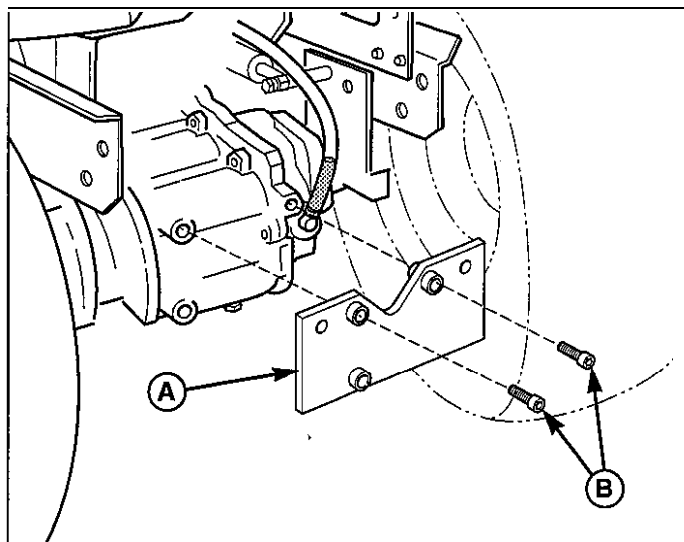

Figure 4. Attach Mounting Plate
4. Attach the mounting plate (A, Figure 4) to the transmission using two socket-head capscrews (B) as shown. Torque capscrews to 60-65 ft. lbs. DO NOT over-torque. Be sure the alignment pins and O-rings are facing toward the back of the tractor.